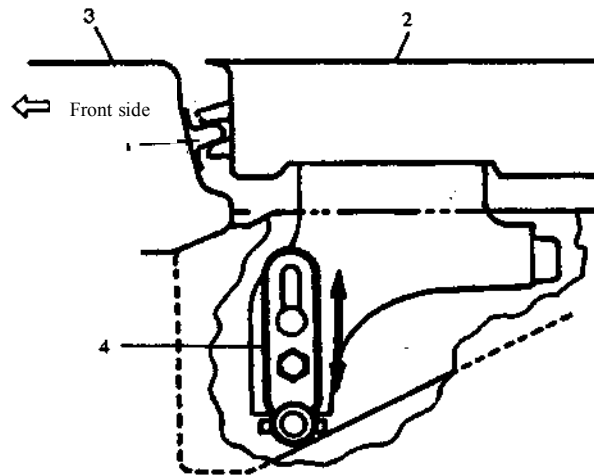

Fig. 4.1-29
- 2) Regulate lower roller arm 4, to make door front end surface 2 and vehicle body surface 3 aim at one line mutually in the state of door closing, see Fig. 4.1-29